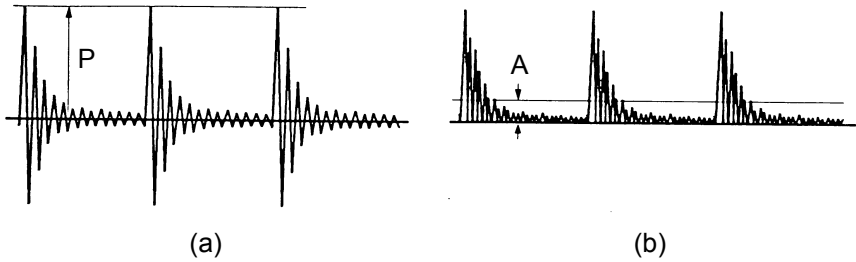

Fig. 2 Shock waveform peak and average values
Therefore the shock waveform peak value (P) shown in Fig. 2 (a) or the waveform average value (A), obtained from processing the shock waveform absolute value, shown in Fig. 2 (b) can both be used as a reference for diagnosing problems. For reasons of display stability, the average value is normally used. In machinery with low rotation speeds (below 300 rpm), the average value will be fairly low, making it difficult to judge the normal/abnormal condition. In such cases, the peak reading will be useful.